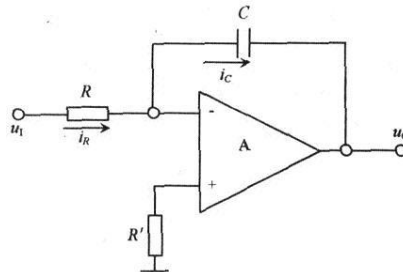

Figure 1
Experimental circuit is as shown in Figure 1. Analyze Figure 1 circuit, think if the input is sine wave, how many u_o and u_i phase difference are. And when the input signal is 100HZ, RMS value is 2V, count the outputs u_o .
- 1.3 Cause Figure 1 integral capacity to change 0.1 μF , separate K, u_i respectively inputs the 100HZ, amplitude value is the 2V square-wave and the sine wave signal, observe u_i and u_o value and the phase relation, and record the waveform.
1.4 Change Figure 1 circuit's frequency and observe the relations of u_i and u_o phase and amplitude value.